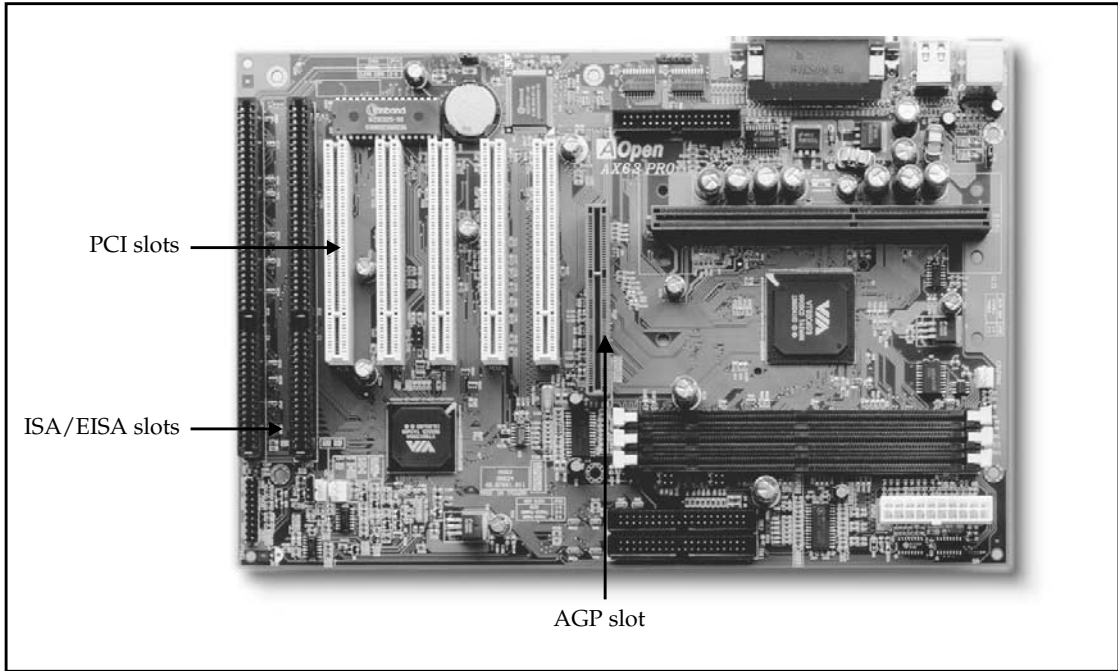

Figure 11-6. The placement of the expansion slots on a motherboard. Original photo courtesy of AOpen America, Inc.
- ▲ **AGP (Accelerated Graphics Port)** While this expansion bus is an expansion bus like the ISA and PCI buses, it is used for only one type of expansion card—video cards. It was developed primarily to improve 3D graphics. Another objective of AGP was to make video cards less expensive by removing memory from the video card, but because memory became less expensive, its benefit is largely in 3D graphics performance. AGP runs at faster speeds than the PCI bus. There are different speed ratings for AGP video cards: 1xAGP, 2xAGP, and 4xAGP, which transfer video data at 264Mbps to 1Gbps. The brown AGP slot is just a little shorter than the white PCI slot and is usually nearby. Figure 11-6 shows the placement of the AGP slot on an AT form factor motherboard in relationship to the ISA and PCI slots.